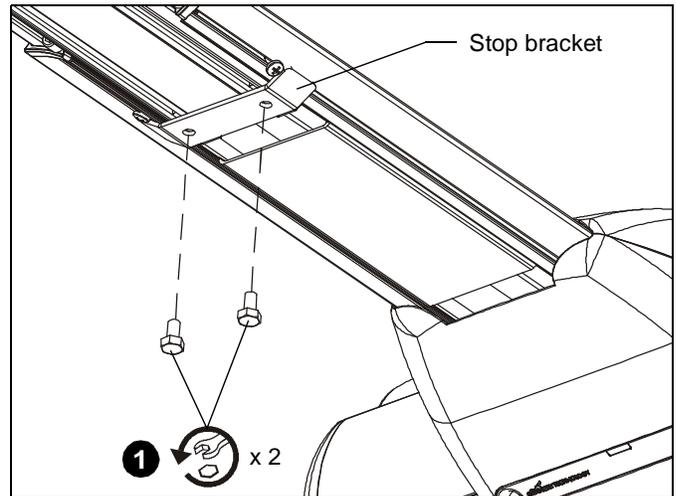

Figure 42
1. Remove two bolts holding stop bracket in place on underside of short throw projector mount. (See Figure 42)